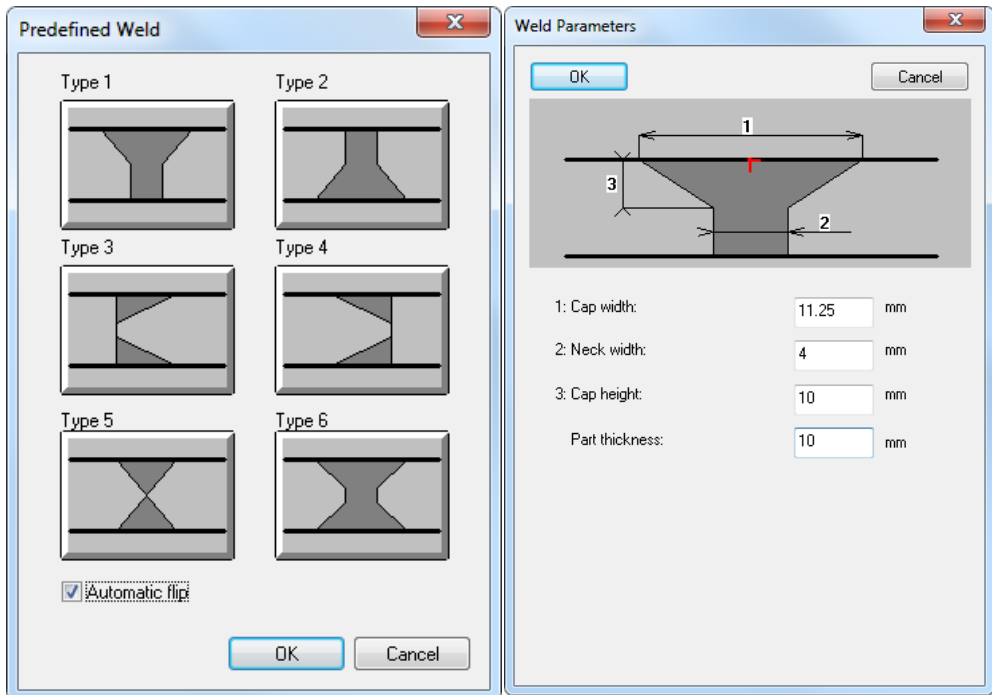

Figure 4-26 The Predefined Weld and Weld Parameters (for Type 1) dialog boxes
- a) In the **Predefined Weld** dialog box, click the appropriate weld type (see Figure 4-26 on page 253).